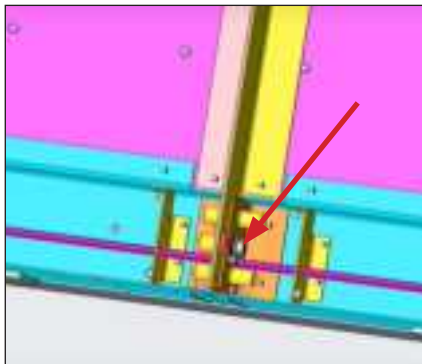

Figure 8: Interconnect Bolt
- 8. Once the cabinets have been placed, secure the horizontal interconnect points by inserting one M12 bolt from the right side of the cabinet to the left side of the cabinet. Refer to **Figure 8**.